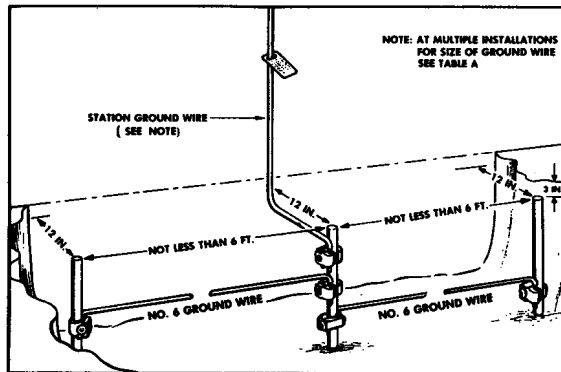

FIGURE 34. Three Ground Rods
- a. If a power ground rod is not available, install a ground rod for each protector. It is not necessary to place more than 3 ground rods. Place station ground wire from each ground rod as shown in Figure 34.
8.04 Multiple type station protectors may be connected to any of the grounds shown in Figures 6 through 18, but they should not be connected to a single telephone ground rod unless the rod is bonded to the power system ground rod. If a power ground rod is not available, a multiple station protector may be connected to an assembly of three telephone ground rods, spaced at least 6 feet apart and bonded together with No. 6 station ground wire. See Figure 34.